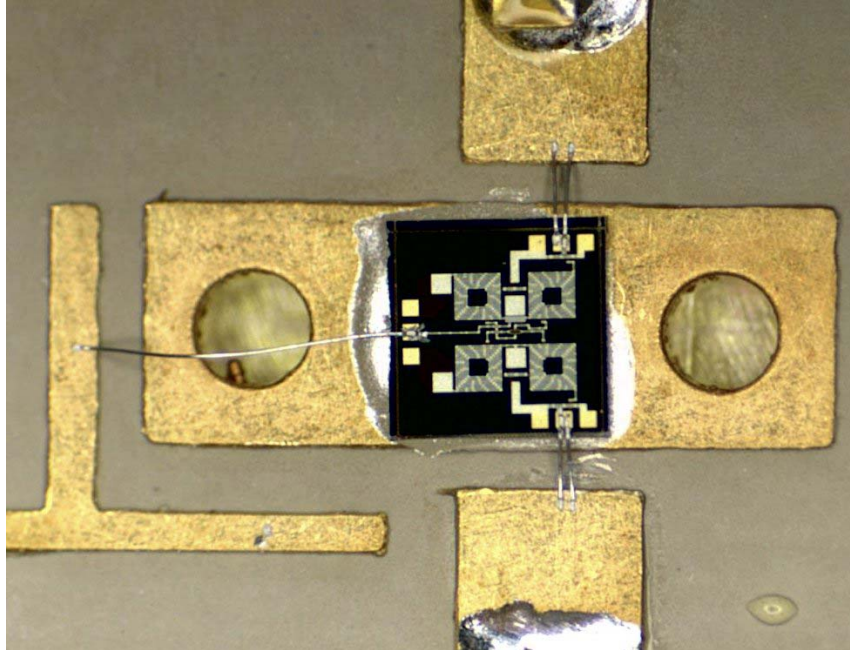

Figure 2: Phase modulator placement and bond wires. The chip should be slightly to the left of this position.
3. Glue the Hittite HMC 136 modulator chip in place with silver epoxy. Apply a small dab of epoxy to the circuit board with a needle, drop the chip in place gently press the chip top with tweezer tips to distribute epoxy under chip. The chip surface has exposed metalization that is easily damaged, so be very careful to apply pressure only to the corners of the chip surface. Epoxy should flow under chip but should not be higher than the chip surface – otherwise, there is some danger of shorting the bond wires. Figure 2 below shows the correct orientation. Cure in large aluminum box in oven following epoxy data sheet (for Bondline 2900, 1 hr at 150 C). Aluminum box keeps the chip clean and eliminates the chance that it will be blown off position.